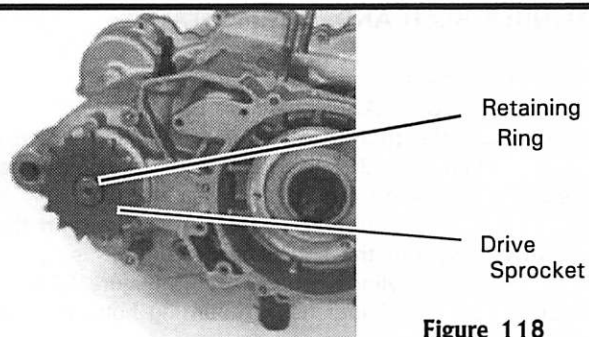

Figure 118
2. Install the drive sprocket and secure it with a new retaining ring (Figure 118). Make sure the retaining ring seats in the mainshaft groove completely.